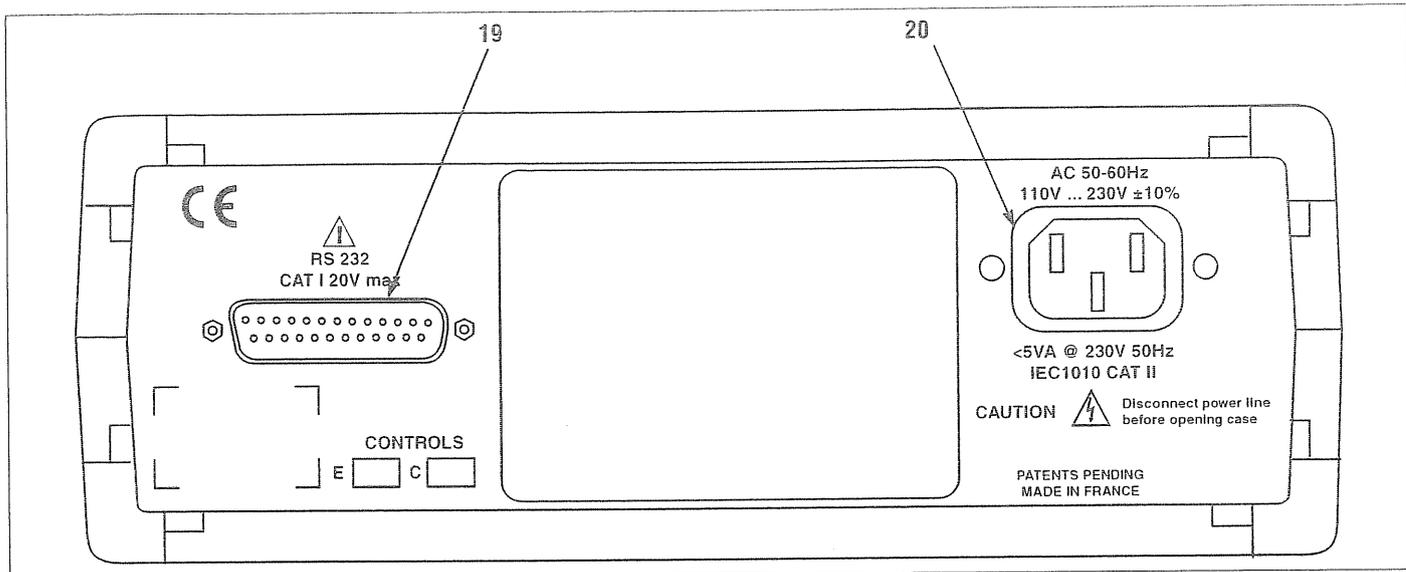

Fig. 4 Rear Panel Connectors
- Function Switch.** Rotary switch, selects function for AUTO ranging modes; selects function and some ranges for current modes. Primary function selected is indicated by white labeling of the switch position. The secondary function of each position is labeled in yellow and is activated by the yellow SEL button as shown in Figures 4 through 10.
- SEL Button (yellow).** Selects the secondary functions of the rotary **Function Switch** (3) indicated in yellow. Toggles between DC, AC, and AC+DC for current measurements; toggles between capacitance and diode testing; toggles between ohms and continuity checking; toggles between DC and AC+DC voltage measurements; or toggles between AC voltage and dB/Hz measurements.